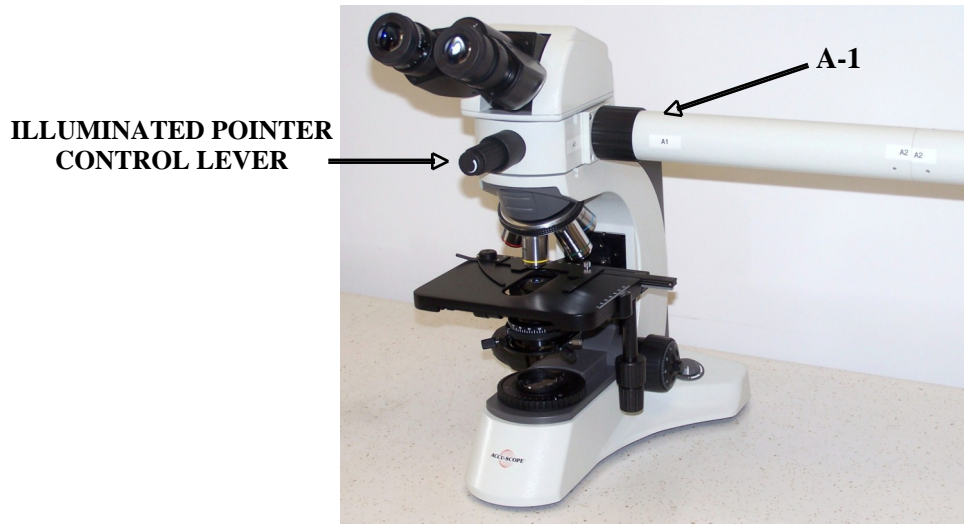

Figure 1
2. Attach the longer of the two extension tubes to the primary dual viewing head attachment (A-1 to A-1, Figure 1).